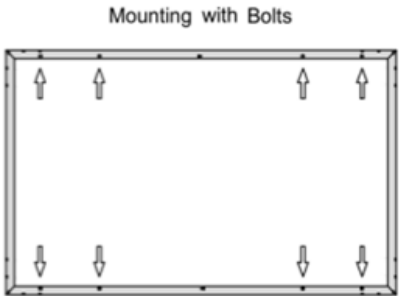

Figure 12: 8 Mounting holes on the back frame of modules SPVxxx-R60DWMG / SPVxxx-R60DBMG
2. If the rails do not have holes compatible with bolt holes on the frame of the modules, suitable holes should be drilled for securing the modules to the rails (See *Figure 12*) .